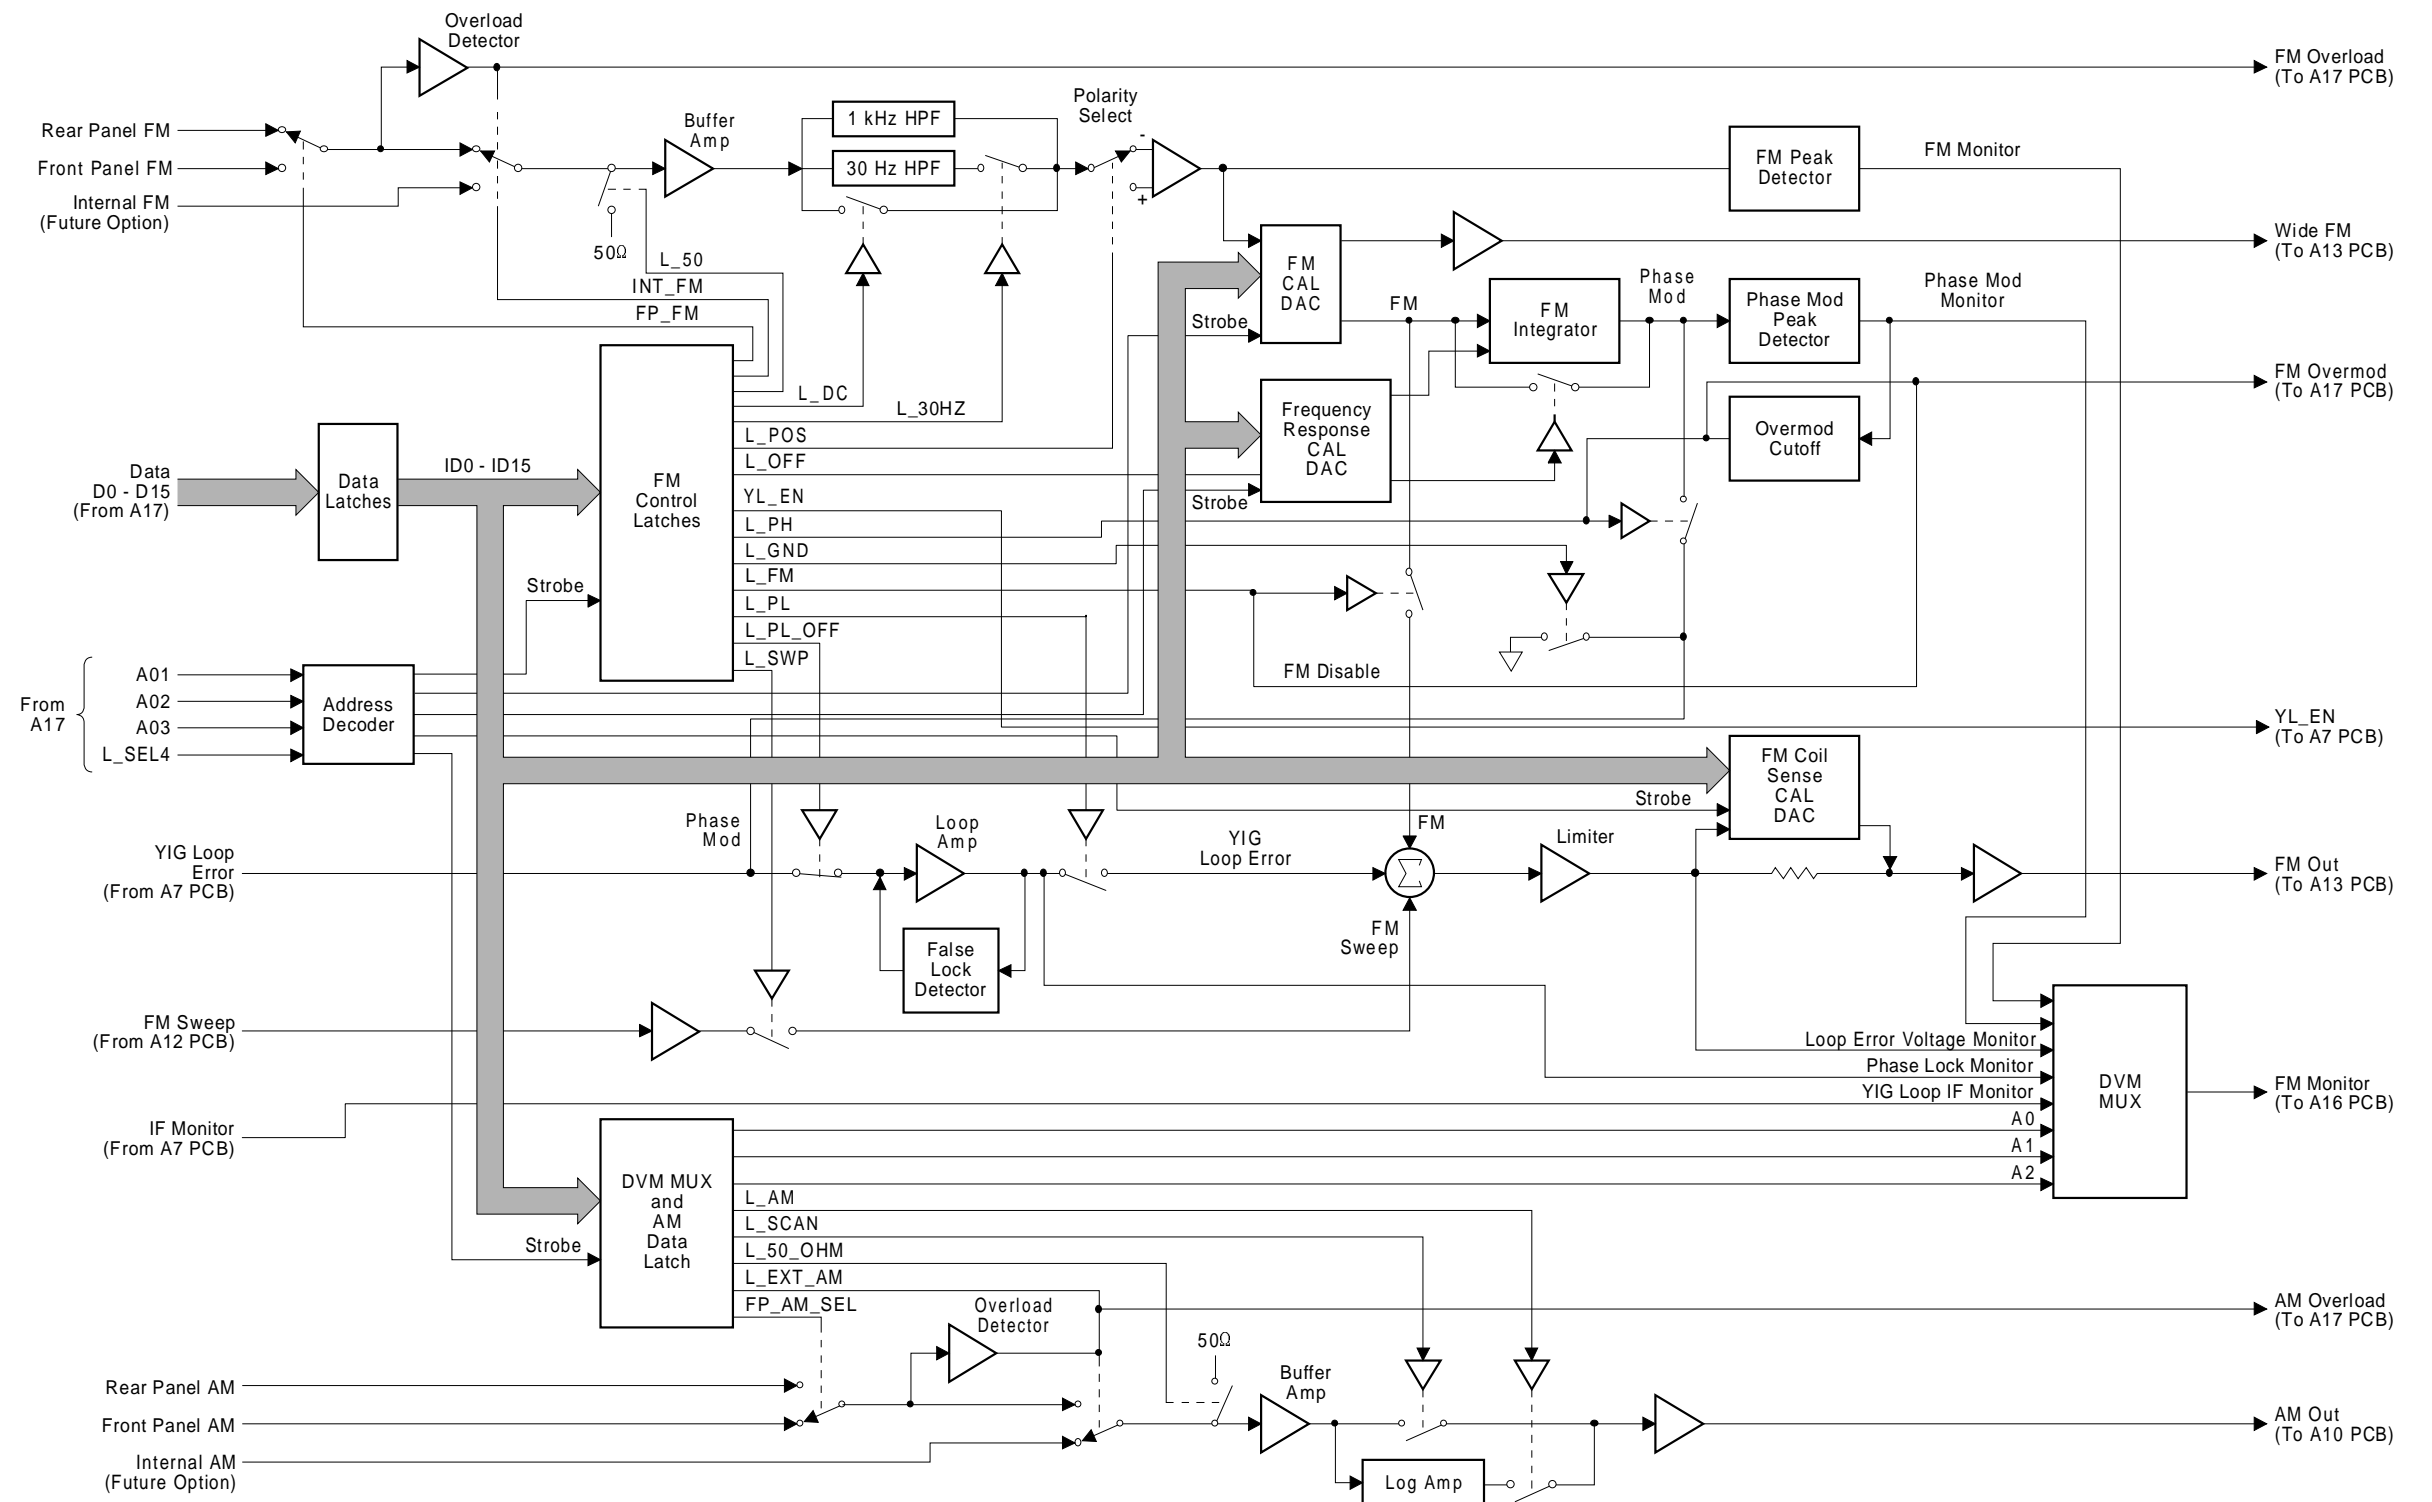

Figure 2-13. Block Diagram of the A11 AM/FM PCB
The A11 AM/FM PCB (Figure 2-13) provides the capability for phase locking, frequency modulating (FM), and narrow-band analog sweeping (≤ 100 Hz wide) of the YIG-tuned oscillator RF output. In addition, the A11 PCB contains the input circuitry for the amplitude modulating signal that goes to the A10 ALC PCB.